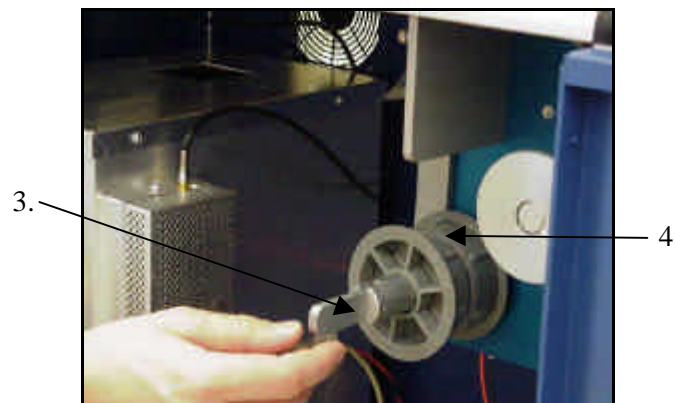

Figure 17: Releasing Stop Lever into Horizontal Position
3. Release the stop lever so that it drops down into a horizontal (straight out) position (**Figure 17**).
4. Remove the two plastic core inserts from the supply roll shaft (**Figure 17**).